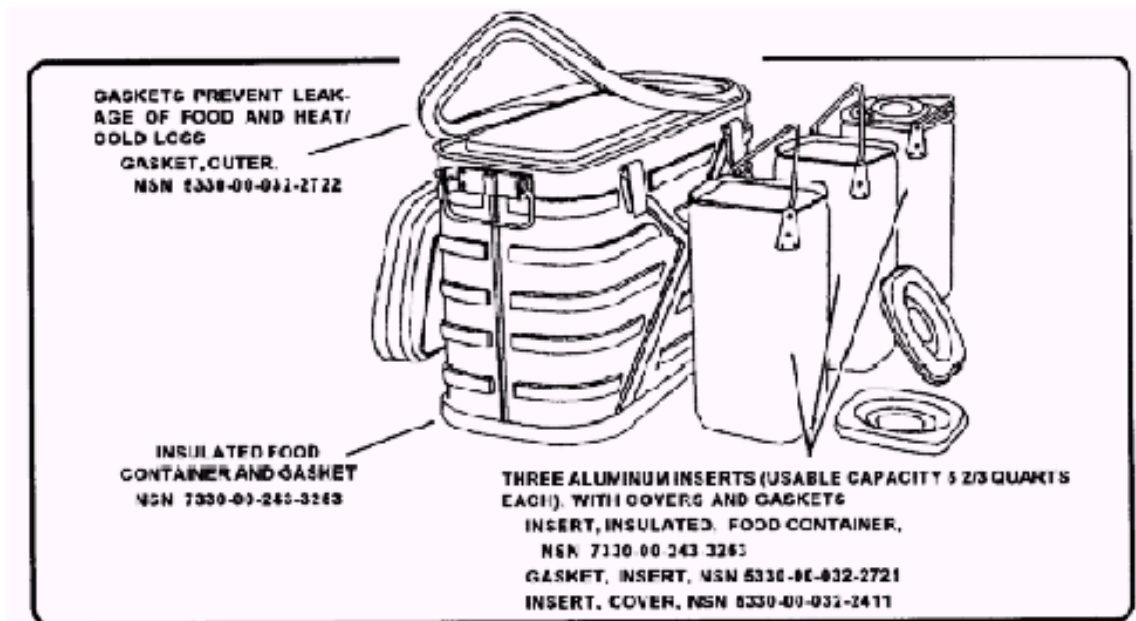

Figure 3-7. Insulated food containers with part NSNs.
d. Insulated Food Containers. Insulated food containers (Figure 3-7) are used to keep hot foods hot and cold foods cold. Each container has three aluminum inserts with tight fitting covers. Each insert may be filled to 5 1/3-liters (5 2/3 quart) capacity. Hot and cold food must be stored in separate containers.
6. Ordering replacement parts. Replacement parts for the insulated food container can be ordered through normal supply channels. Figure 3-7 gives the NSN and nomenclature for each part.